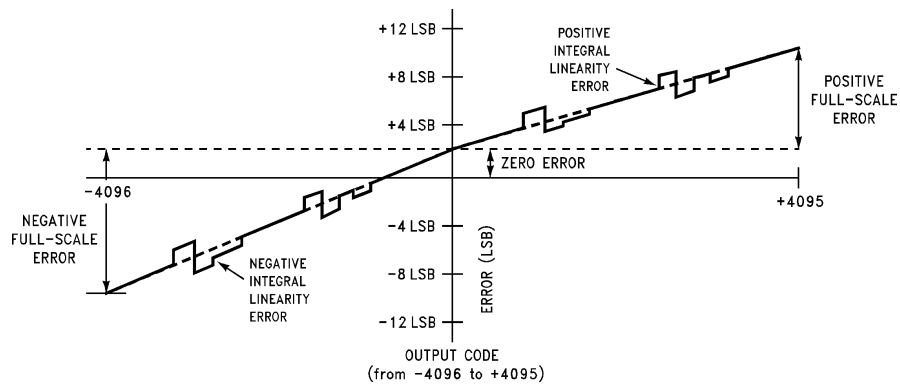

FIGURE 5b. Simplified Error Curve vs Output Code without Auto-Calibration or Auto-Zero Cycles
**Note 12:** Positive integral linearity error is defined as the deviation of the analog value, expressed in LSBs, from the straight line that passes through positive full-scale and zero. For negative integral linearity error the straight line passes through negative full-scale and zero. (See Figures 5b and 5c).